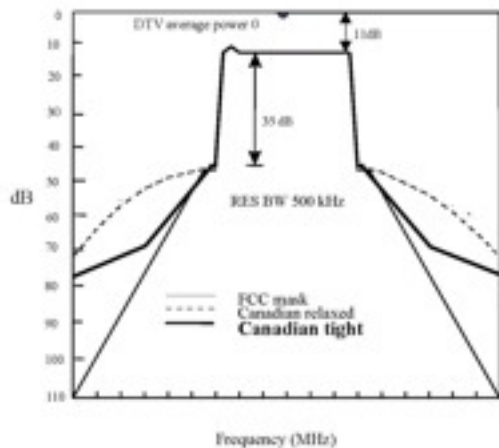

Figure 1 Canadian Spectral Mask
- The values proposed in figure 1 are normalised on a 500 kHz resolution bandwidth, if the spectrum analyser in use operates at a different resolution bandwidth a factor of: $-10 \log(\text{res BW}) - 10 \log(500)$ has to be applied.